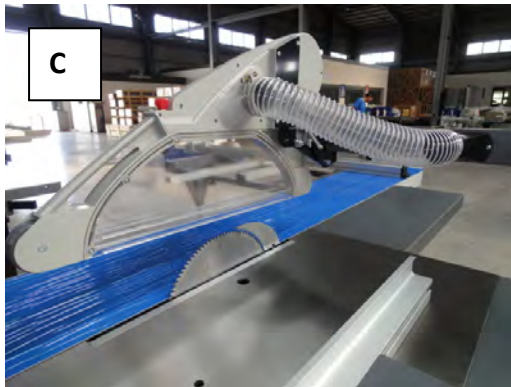

Figure 4-1.1a
4. Set the guard **C** (Figure 4-1.1a) to a max. Height 4 ~ 5mm from the work piece.